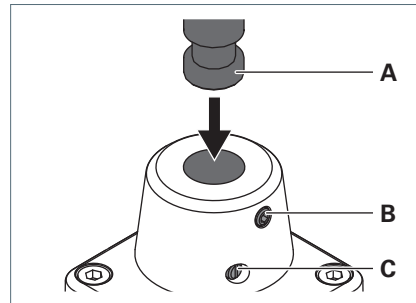

Fig. 3: Mounting the luminaire to the fastening element.
- ▶ Unscrew the screw **C** from the fastening element, see Fig. 3.
- ▶ Screw the setscrew **B** into the fastening element until reaching the desired friction, see Fig. 3.